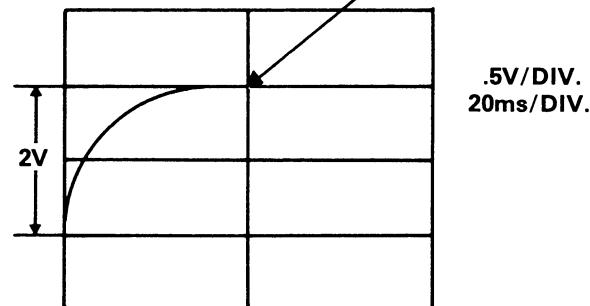

Figure 3-3. Model 480 Rise Time On 10nA Range
7. Perform the checks in Table 3-3 by setting Model 480, oscilloscope, Model 110 and test fixture to the condition specified. Adjust Model 110 amplitude for 2V peak-to-peak analog output from Model 480. Check 10% to 90% rise time and verify response is free of ringing. A typical response on the 10nA range is shown in Figure 3-3. Figure 3-3 also shows the 10nA range with the oscilloscope time compressed to 20mS/div. to verify the absence of ringing and overshooting.